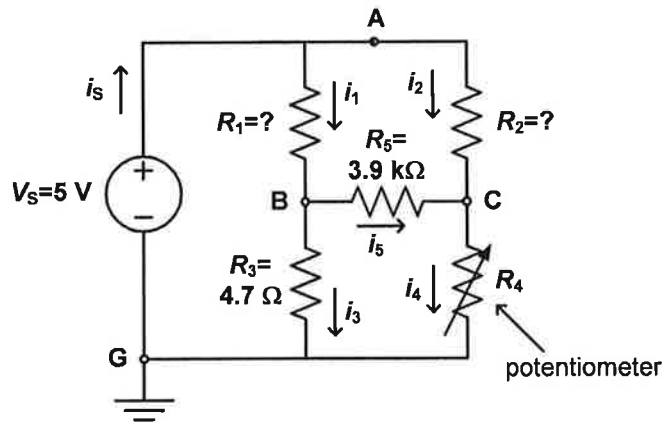

Figure 3. Wheatstone Bridge circuit for Lab Experiment 3.
**Lab Experiment 3: Measuring small resistor values using the Wheatstone bridge circuit.** Replace the resistor  $R_3$  with a  $4.7\text{-}\Omega$  resistor in Fig. 1, as shown in Fig. 3. Our goal is to measure the value of this small resistance using the Wheatstone bridge circuit. Resistors this small in value are hard to measure accurately. Choose the appropriate values of  $R_1$  and  $R_2$  so that you can precisely measure the value of  $R_3$  using the Wheatstone bridge. Again, use a potentiometer for  $R_4$ . Compare your measurement value obtained from the Wheatstone bridge circuit with measurements from your handheld DMM, the DMM on the lab bench, and the *LCR* meter. Again, calculate the percentage error in the  $R_3$  value.